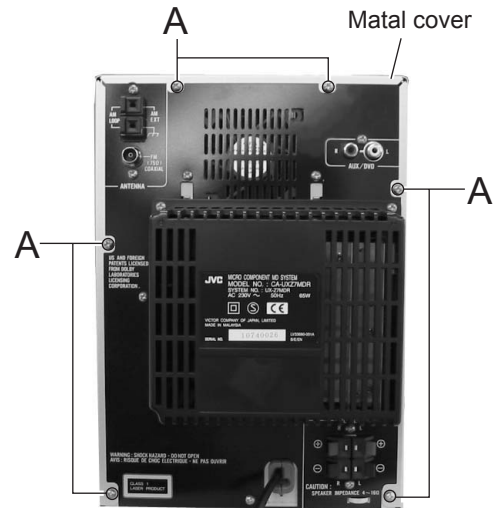

Fig.1
2.1.1 Removing the metal cover (See Fig.1 to 3.)